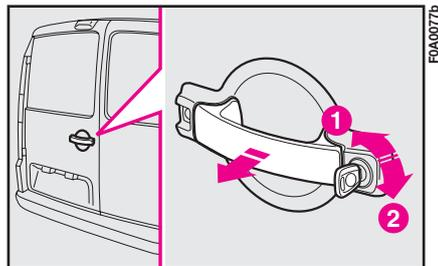

fig. 115
**Turn the key to position 2-fig. 115 and pull the door handle in the direction of the arrow.**
**Turn the key to position 1-fig. 115.**